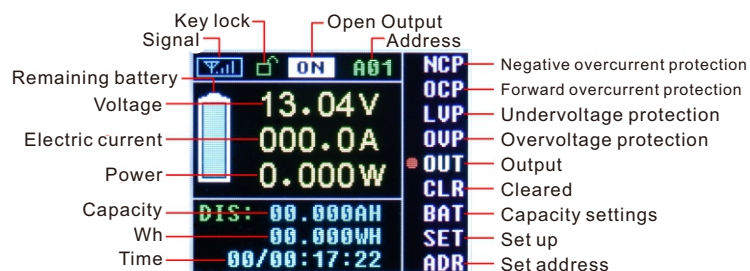

Figure 2-1
- This meter is a split structure, consists of the display panel and measuring board. Figure 2-1 is description for display board interface. Two parts transfer data via the wireless module, and also can be connected with wire.